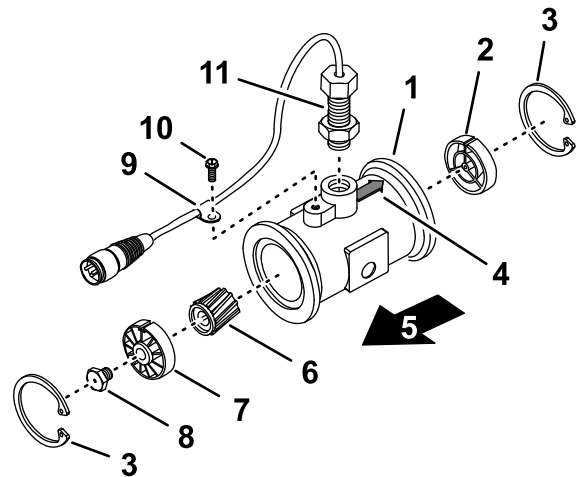

Figure 151
3. Remove the retainer ring on the upstream side (Figure 151).